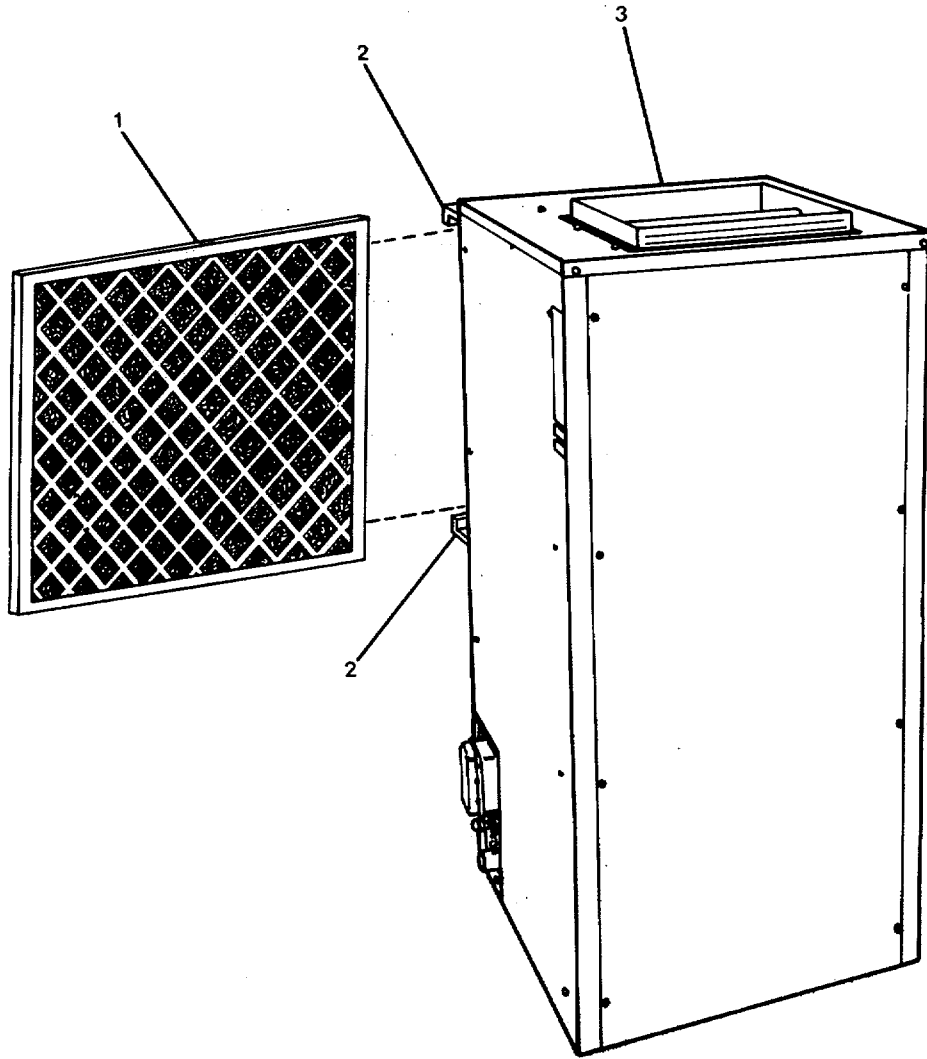

Figure 2-23. Air Conditioner (A/C #1 and A/C #3).
- a. Install the fan with the drive support (5) mounting screws (6).
- b. Connect electrical wiring to proper terminals on motor (8).
- c. Connect housing (1) at inlet flange (3) and outlet flange (4).
- (1) Turn electrical power ON.
- (2) Start and run fan to check for proper operation.
- (3) Remove "Out of Service" tag from circuit.
**2-33. Repair Air Conditioner (A/C #1, Pilothouse) and (A/C #3, Engine Control Room)...(FIGURE 2-23)**